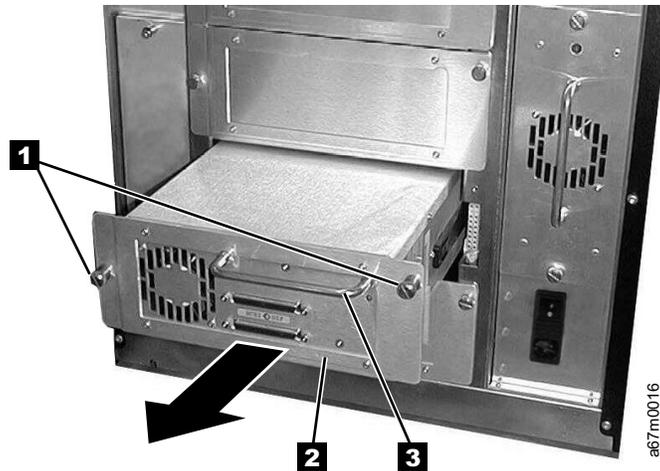

Figure B-2. Removing the Drive Sled
5. Loosen the two captive thumbscrews **1** on the drive sled **2** and slide the drive sled out using the handle **3** (see Figure B-2 on page B-3).
17. Slide the drive sled into slot you removed it from using the handle **3** (see Figure B-2 on page B-3). Tighten the two captive thumbscrews **1** on the drive sled **2**.